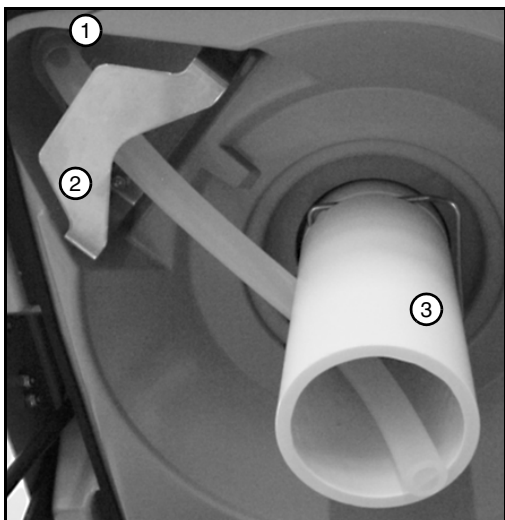

Figure 1-6 Composite Bottle Tube Guide Installed
2. Attach the discharge tube to the bulkhead fitting. Route the tube over the stainless-steel tube holder (Figure 1-6).